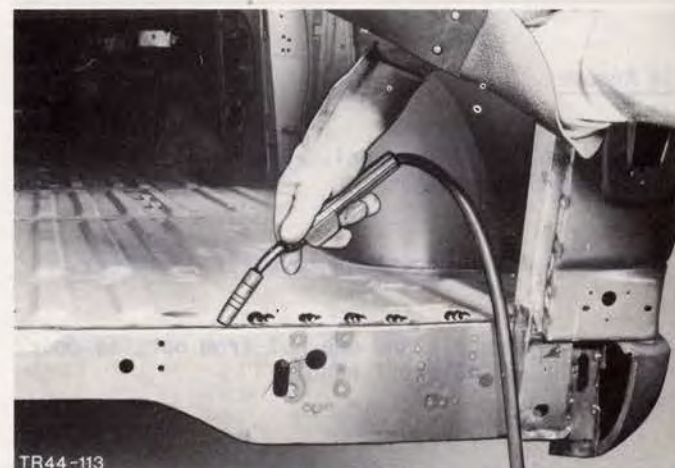

Fig.209. Plug weld crossmember.
8. Plug weld crossmember to floor panel, Fig.209, and MIG weld to side panels.